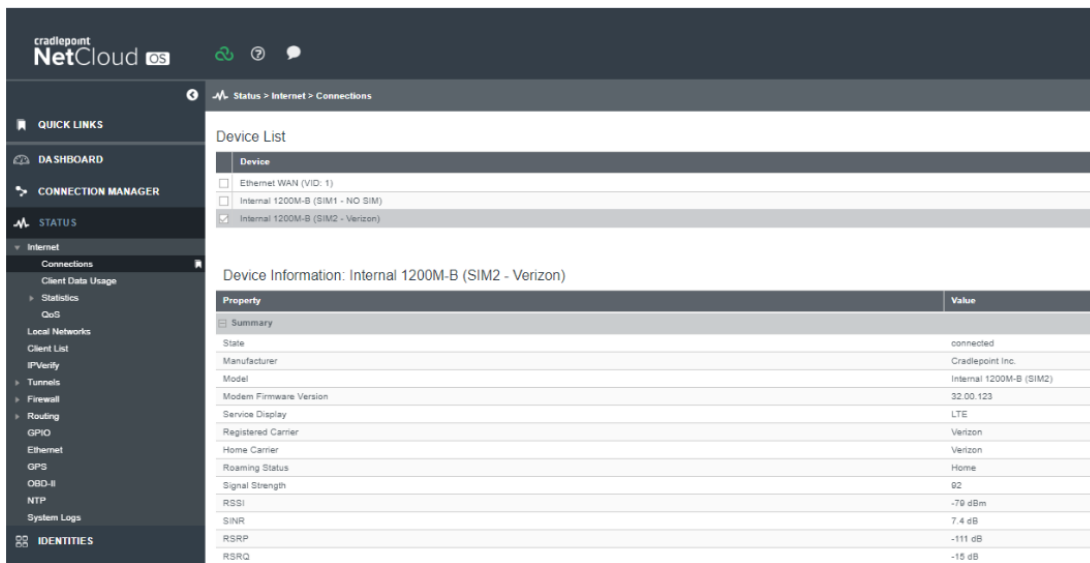

Figure 17: Select the device with a cellular SIM in Cradlepoint NetCloud.
- B. In the Device List table, select the option with a cellular SIM, as shown in Figure 17.